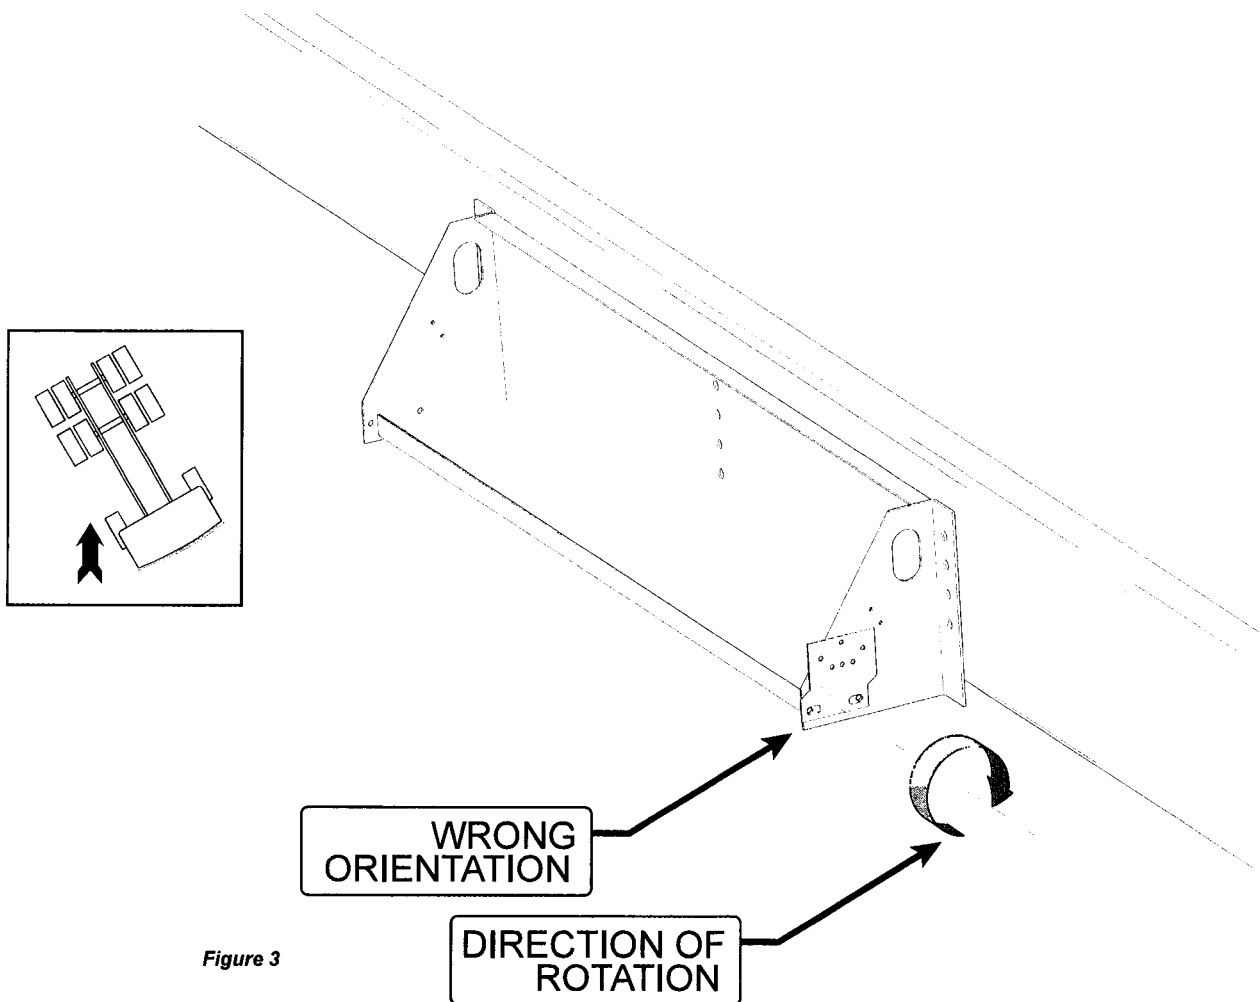

Figure 3
Step 21: Use a 9/16" socket to remove the nuts and bolts used to mount the disconnect switch bracket shown in *Figure 3*.
Step 22: Rotate the disconnect switch bracket 180° around the longitudinal (front-to-rear) axis of the vehicle as shown in *Figure 3*.
NOTE: *Figures 3* and *4* are included in the installation instructions for all parallel-to-frame battery boxes. The following instructions are applicable whether the switch is mounted on the front end or the rear end of the battery box.